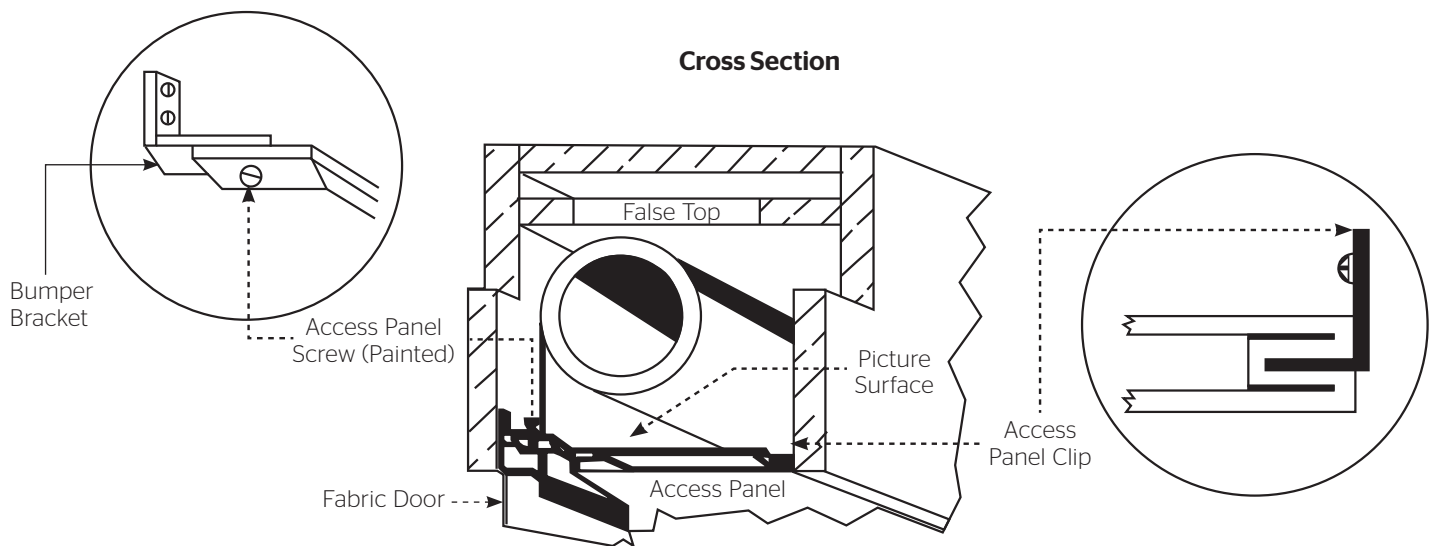

Figure 2
- Picture surface should hang freely. (Fig. 2) Remove any tape left hanging on back of fabric. Bottom edge should be positioned between bottom edge of case and center of roller.
- Press switch "down" so that fabric door opens (Fig. 2).
- Remove screws (2) located on each bumper bracket.